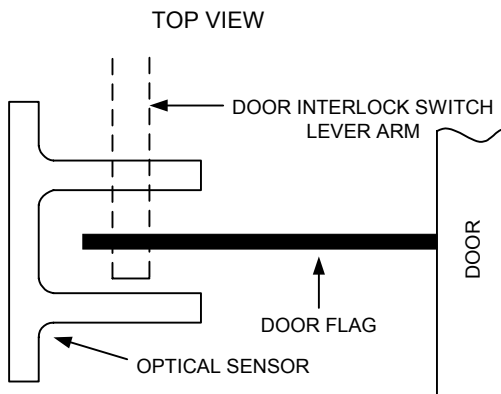

Figure 3
30. Position the bracket so that the door flag is centered inside the optical sensor, and clear of the path of the door. Align the bracket so that the end of the flag is not touching the back of the sensor body. Tighten the two M4 mounting screws. See figure 3..